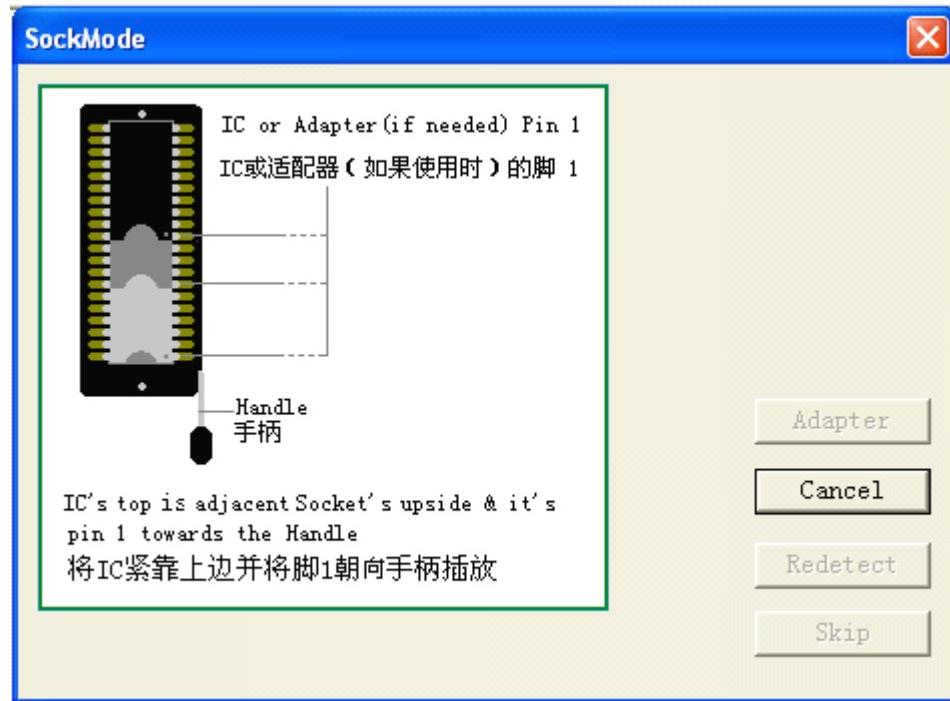

Figure 19 Getting Start Socket Mode
After you click the “OK” button, the Socket Mode widow will appear automatically. See the Figure 19. Any time you can view the window by click the Putting/Adapter button on the Setting bar.
Step 5: Put the device on the locking socket. You should please put the device you want to program to the Socket as the Figure 19 or Figure 21 and then lock it.